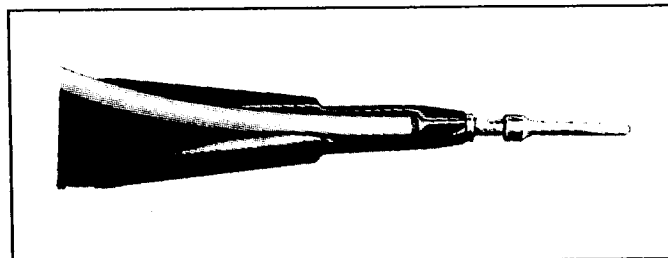

Figure 4
- f. Grip the contact at the shoulder nearest the wire-well end of the contact. The contact should be positioned against the shoulder undercut in the tips of the tool. See figure 4. Insert the contact into the applicable contact hole and seat the contact in position.